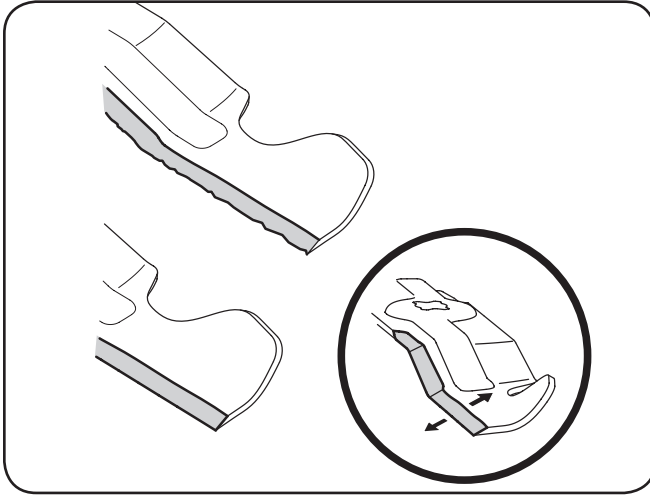

Figure 7-8
4. To properly sharpen the cutting blades, remove equal amounts of metal from both ends of the blades along the cutting edges, parallel to the trailing edge, at a 25°- to 30° angle. Always grind each cutting blade edge equally to maintain proper blade balance. See Figure 7-8.